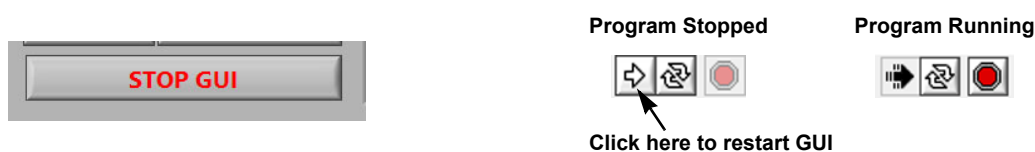

Figure 8. Stop and Restart the GUI
3. Click **STOP GUI** (Figure 8) in bottom left corner to properly stop the GUI. Do not click stop sign in upper left corner as this aborts the program and can cause a connection failure to the RTKA489204MICROZ board.
5. Next, click the arrow in the upper left of the screen to restart the GUI (see Figure 8). The GUI firmware window shows the firmware revision, and the green LED on the microcontroller board is illuminated. If the green LED is not lit, go back to step 3.